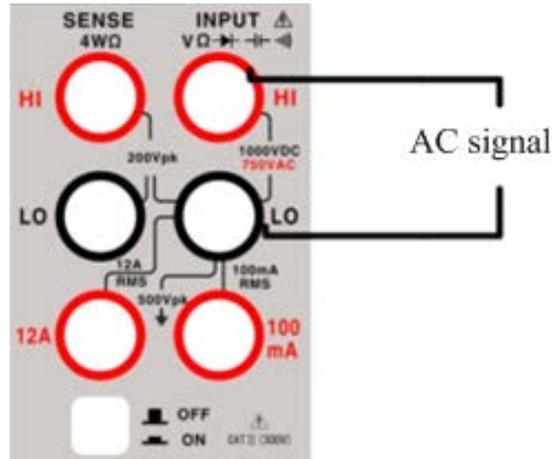

Figure 2.5.2 Frequency/cycle measurement terminal connection
2. According to Figure 2.5.2, connect the red and black test leads respectively to the proper input terminals.